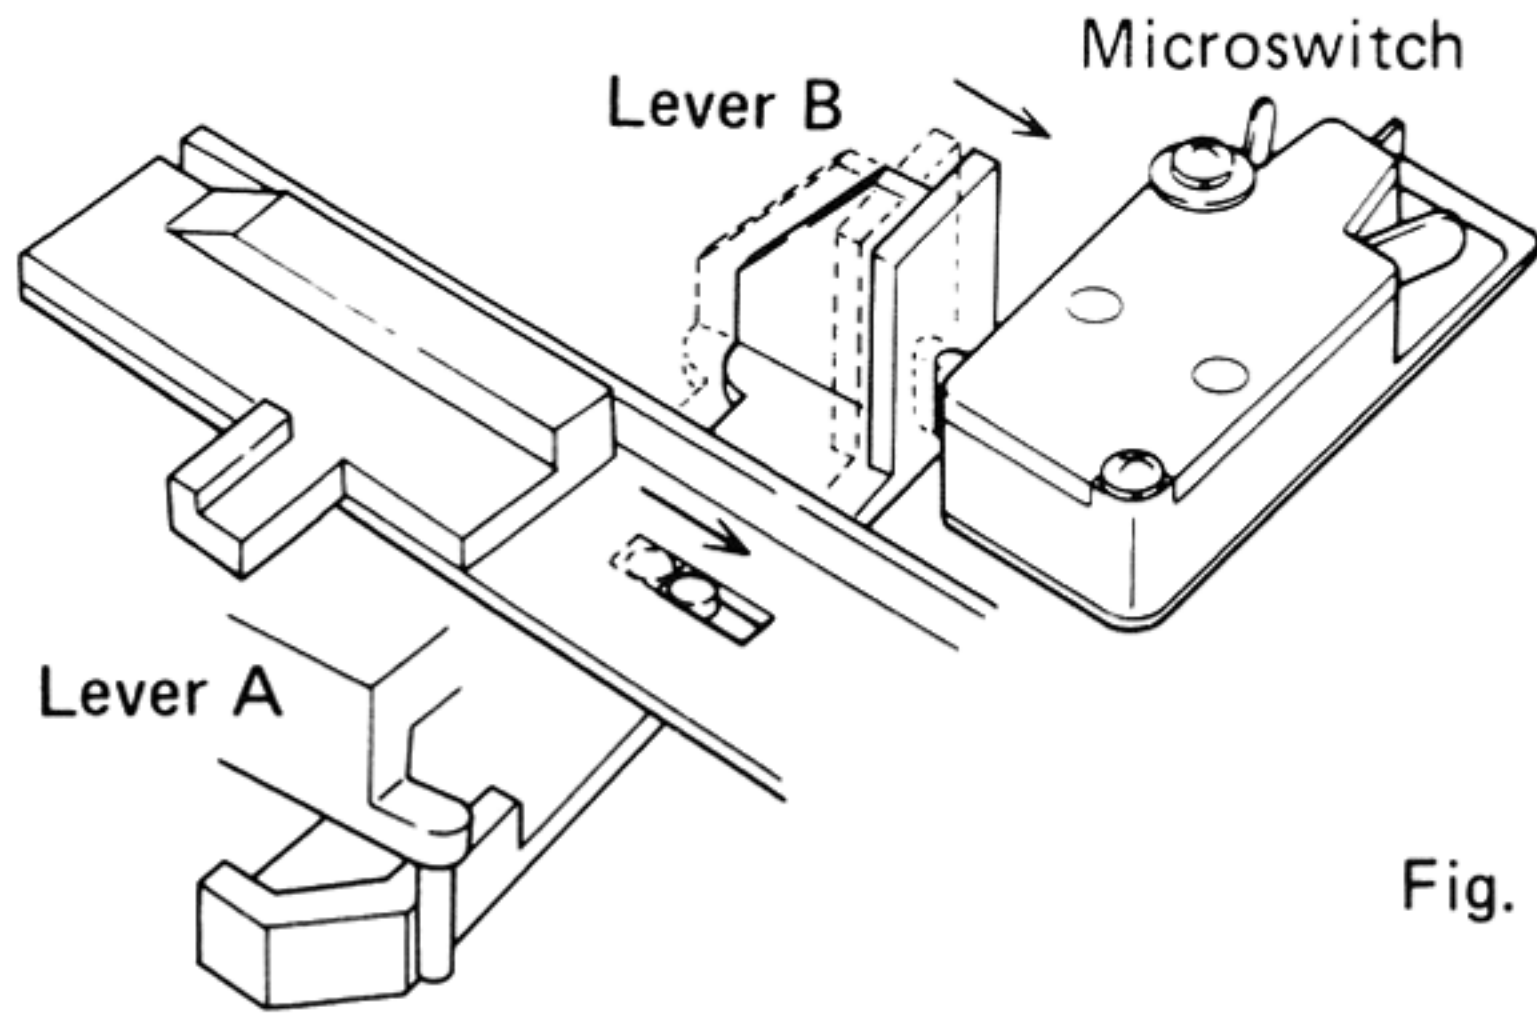

Fig. 1
2. Lever A, connected to the tonearm, unlocks lever B, and the microswitch is turned ON (Fig. 1).